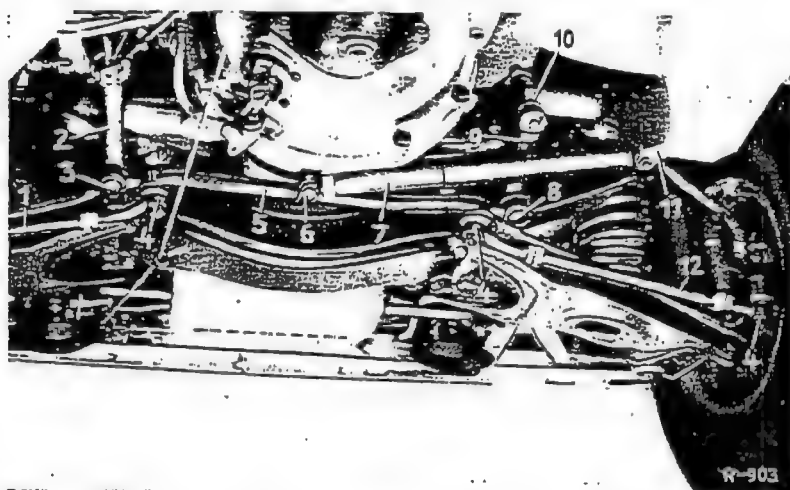

Fig. 46-9/1
Modification: Fitting sleeve (Fig. 46-9/3a) and ball pin (Fig. 46-9/4c) added
1. Loosen and remove the hexagon screw fastening the steering shock-absorber (7) to the bracket (6) at the center tie-rod (5) (Fig. 46-9/1).
2. After removing the cotter pins, unscrew the castle nuts at the outside joints (4) of the tie-rods and at the joints (3) and (8) of the center tie-rod (Fig. 46-9/1).